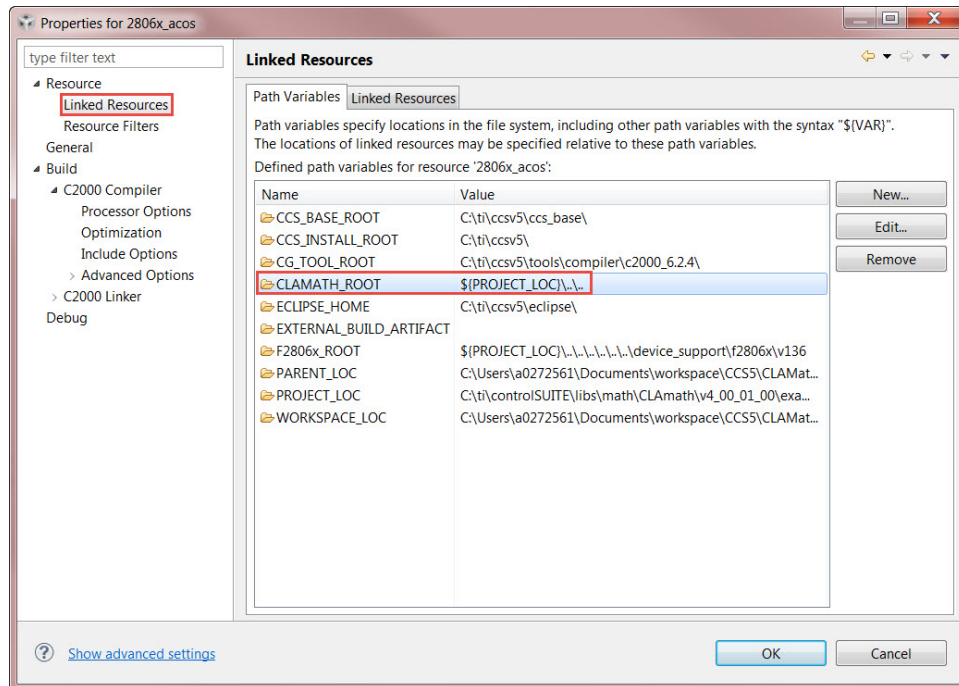

Figure 4.5: Creating a new build variable
1. Go to **Project Properties->Linked Resources** and add a new variable (see Fig. 4.5), CLAMATH_ROOT, and point it to the root directory of the CLA Math library in controlsuite, i.e. the version folder.